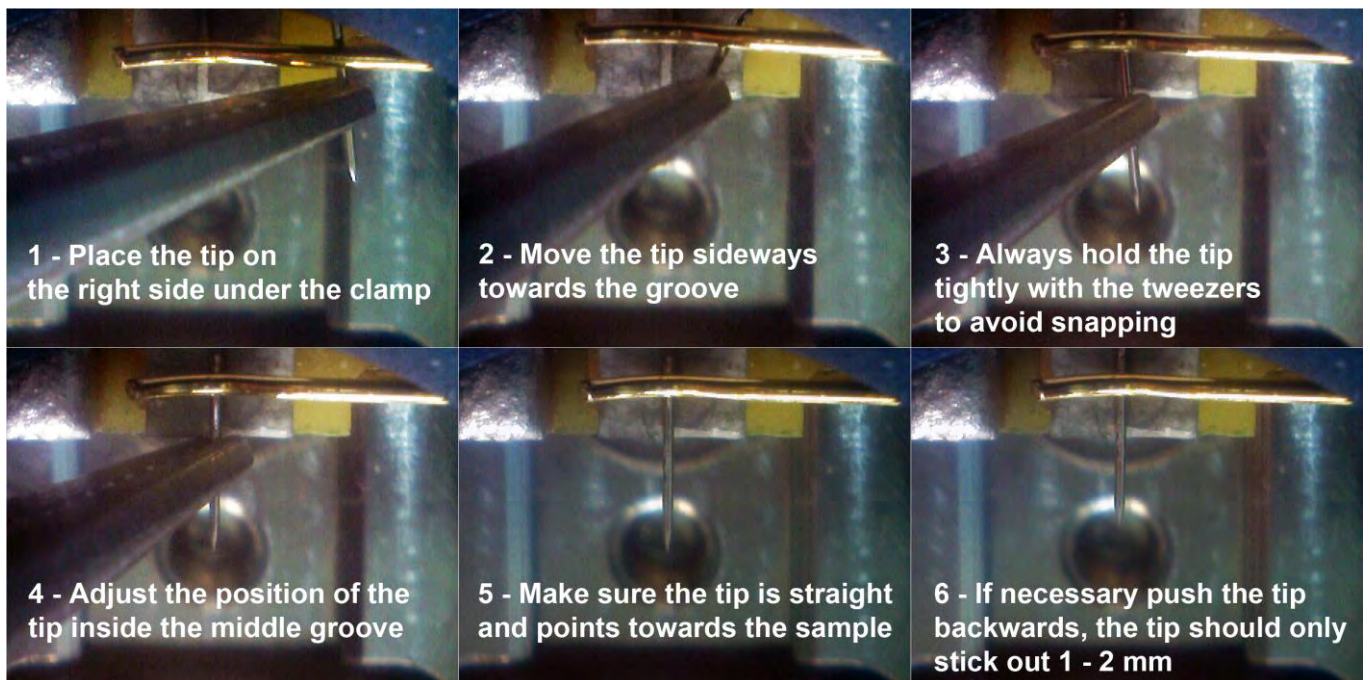

Fig. 5: Step by step pictures of the tip mounting.
- Put the tip wire underneath the clamp on the tip holder (A), parallel to the groove and push it all the way to the end.
- Move the tip wire sideways until it is in the groove and held securely under the clamp (B). It should stick out about 1–2 mm beyond the tip holder. See also Fig. 5 for step-by-step pictures.